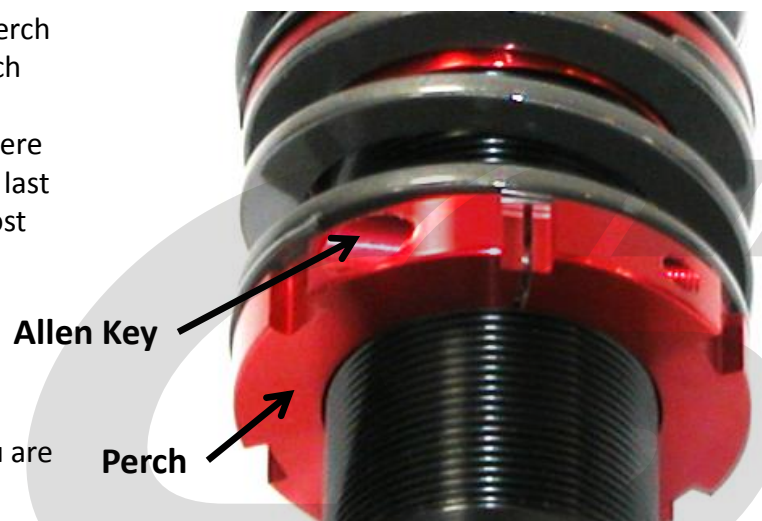

Figure 9c
- d) Adjust the height of the front coilover. Start by loosening the Allen bolt that stops the spring perch from spinning. Then adjust down or up the perch using the provided spanner wrench (Allen and Perch shown in Figure 9c). If you are unsure where to start, adjust the perch up 1.5-2.0" above the last thread. This will be a good starting point for most people.